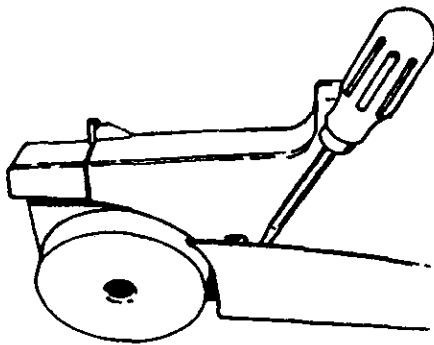

Fig. 11
The Recovery System. Recovery from the floor is shown in Fig. 11. With the handle in the operating position, the pump is off and the valve to the tools is closed. All suction is at the floor nozzle.
3. Carefully pry inward on rear panels of hood to release (Fig. 11).